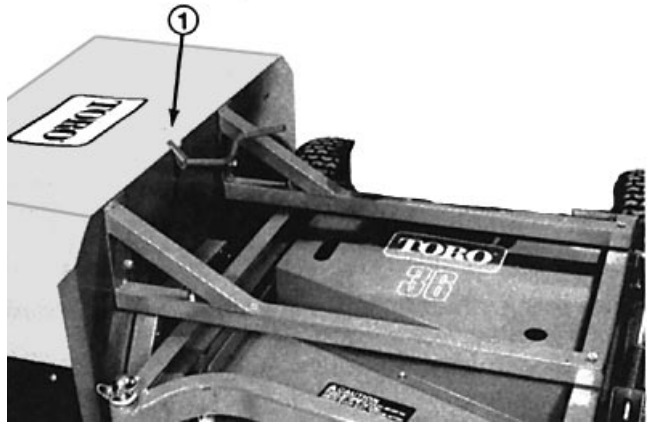

Figure 7
1. Raise the lockup rod, hook the front bag support tube onto the back panel bag support, then lower the bag against the back panel (Fig. 7).
2. Hook the lockup latch onto the bag tube (Fig. 7).